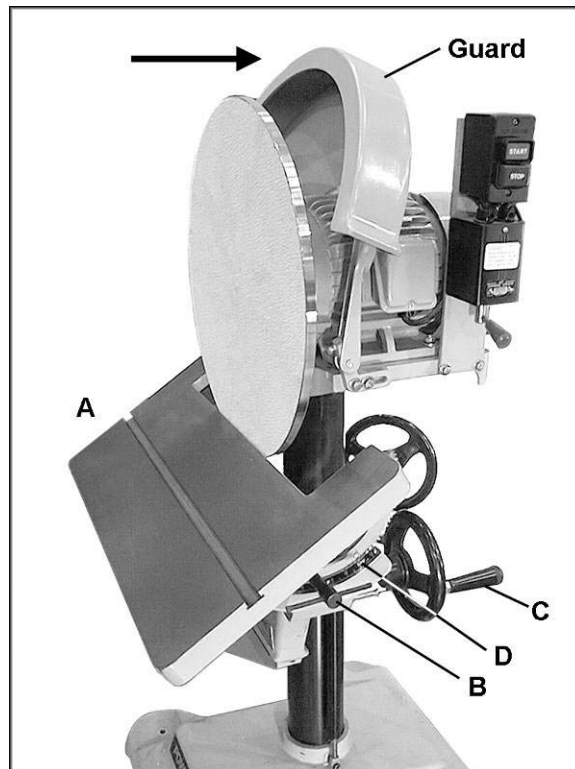

Figure 6
The work table (A, Figure 6) can be tilted 30 degrees forward and 45 degrees backward.
1. Loosen the handle (B, Figure 6) and rotate the handwheel (C, Figure 6) clockwise to tilt table backward, and counterclockwise to tilt table forward. The pointer on the trunnion scale (D, Figure 6) indicates the angle.
2. When table is positioned, re-tighten handle (B, Figure 6).
1. Lower the table as far as possible, and push back the guard. See Figure 6.